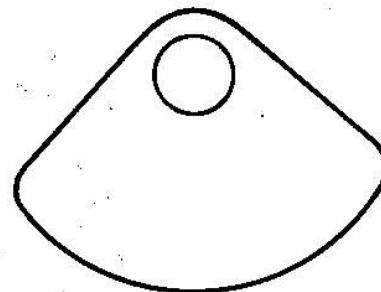

FIGURE 3
3. Remove levers, wave plate (fig. 3), and lockout plate from bracket (discard wave plate).